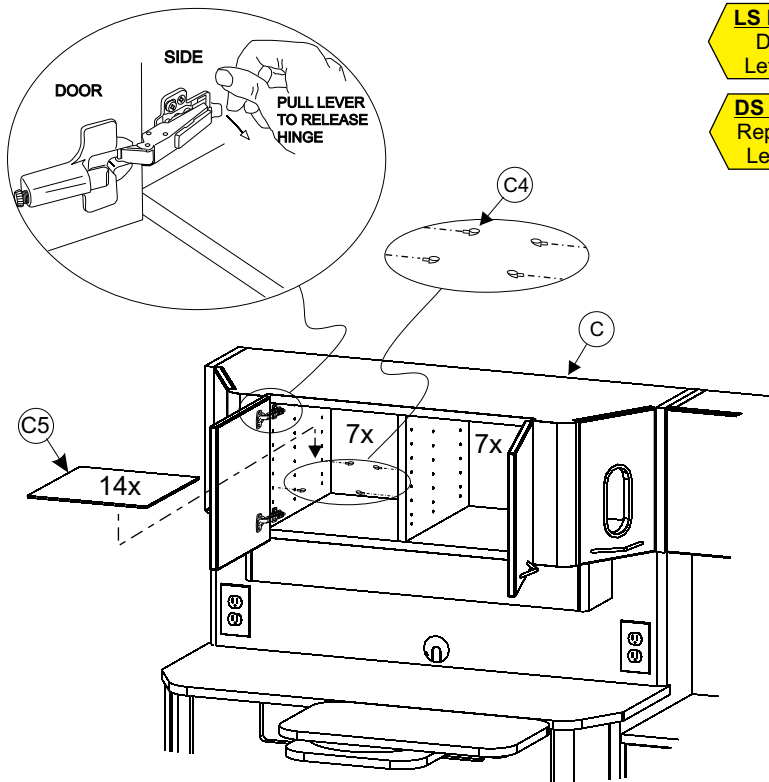

Figure 16
Remove Upper Doors from Upper Storage (C) (to install Glass Shelves) by opening Upper Doors and pulling up on the tab at the end of the hinge base plate mounted on the inside of the storage area (see Figure 16).
Insert Glass Shelf Support Pins (C4) (4 for each shelf) into holes on the inside panels and then set Glass Shelves (C5) onto the support pins (see Figure 16). Place (7) shelves in each compartment.